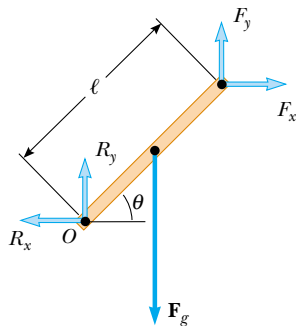

Figure P12.2
2. Write the necessary conditions for equilibrium of the object shown in Figure P12.2. Take the origin of the torque equation at the point O .